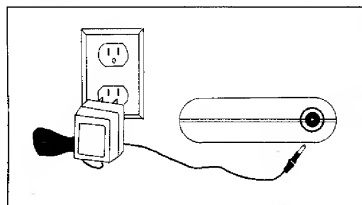

Figure 2a
House Current - Plug the house current adapter (L) into any 110/115V AC (house current) wall outlet; then, plug the other end into the charger's power input (A). See Figure 2a.